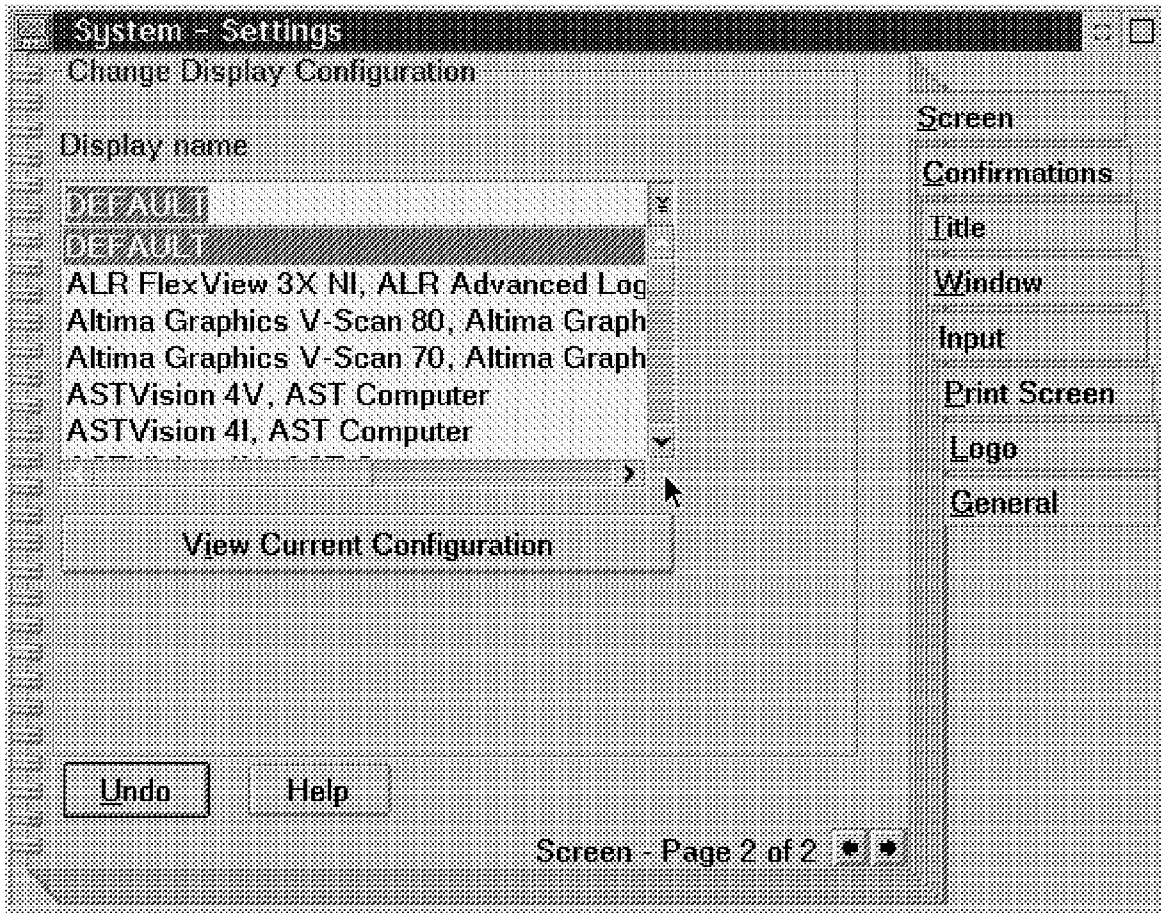

Figure 15. System Setup: Selecting Display Type
6. Switch to page 2 of the Screen settings. On this page, as shown in Figure 15 on page 56, you are able to set what type of display you have attached to your system. If your display is not listed, leave the setting at DEFAULT.